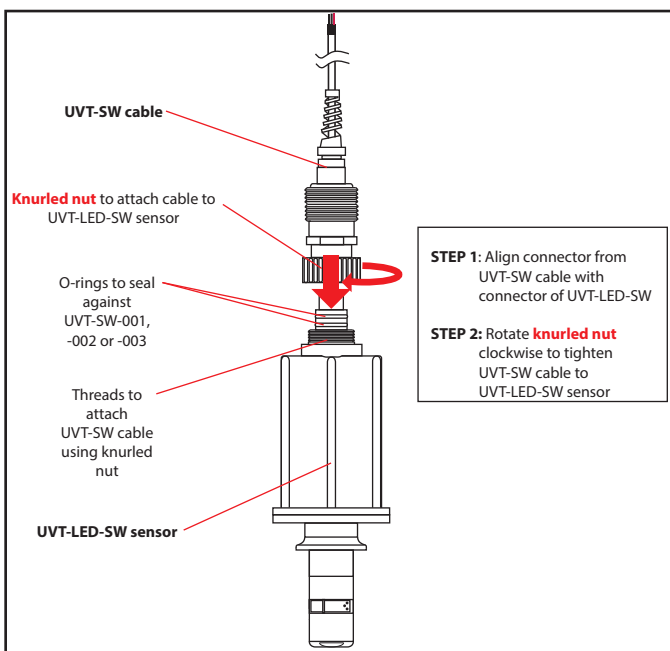

FIG. 16
Step 2: Cable Assembly Preparation: A 10meter (33ft) cable assembly is included with each UVT-LED-SW. Assemble the cable to the 1" adapter of the UVT-SW mounting assembly. After the assembly is completely mounted then attach the sensor to the cable by aligning the connector parts and tightening the knurled nut clockwise until it stops (FIG 16). 1 inch of the cable jacket is stripped off for your convenience (see FIG 3). If you want longer leads, remove as much of the gray cable covering to reveal the length of wire you require. Next, strip the brown, white, and green wire tips to desired length and tin with solder to prevent wirings from fraying. Trim off braided shield and string filler even to cable jacket.